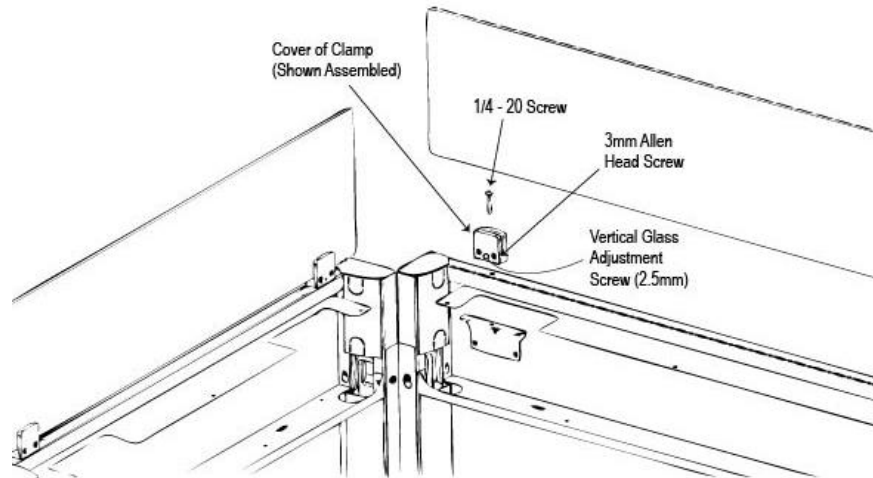

Figure 2: Final Assembly
6. Using a 3mm Allen key, disassemble each Glass Clamp Cover. Refer to **Figure 2** for details.